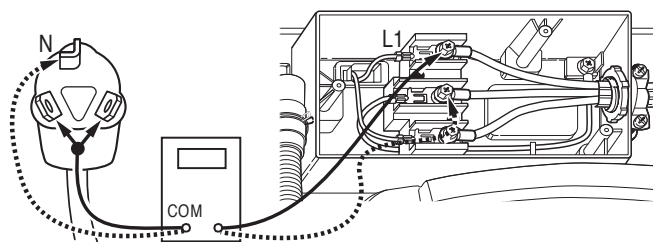

Figure 2 - Plug-to-terminal connections for electric dryer.
3. With an ohmmeter, check for continuity between the neutral (N) terminal of the plug and the center contact on the terminal block. See figure 2.
4. In a similar way, check which terminal of the plug is connected to the top contact on the terminal block and make a note of it. This will be L1 in the wiring diagram. Follow the same procedure for L2. See figure 2.